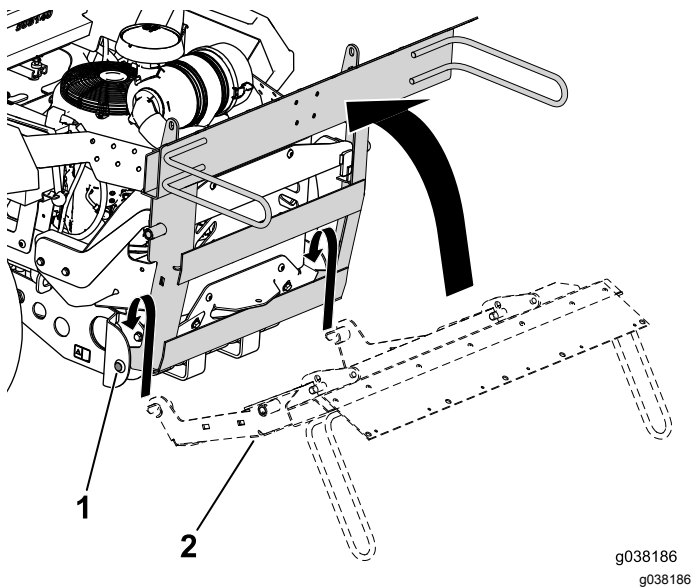

Figure 17
1. Arrange the bagger frame around the pivot pins on the support bracket and rotate it forward (Figure 17).